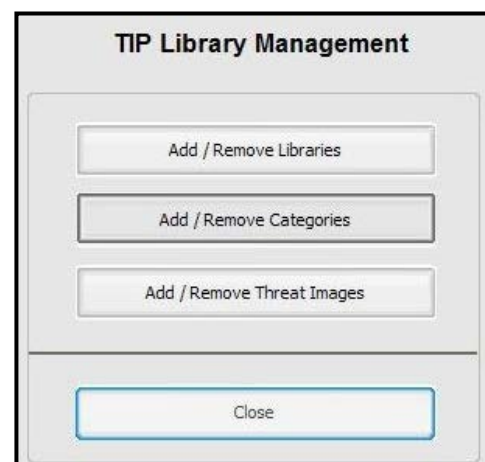
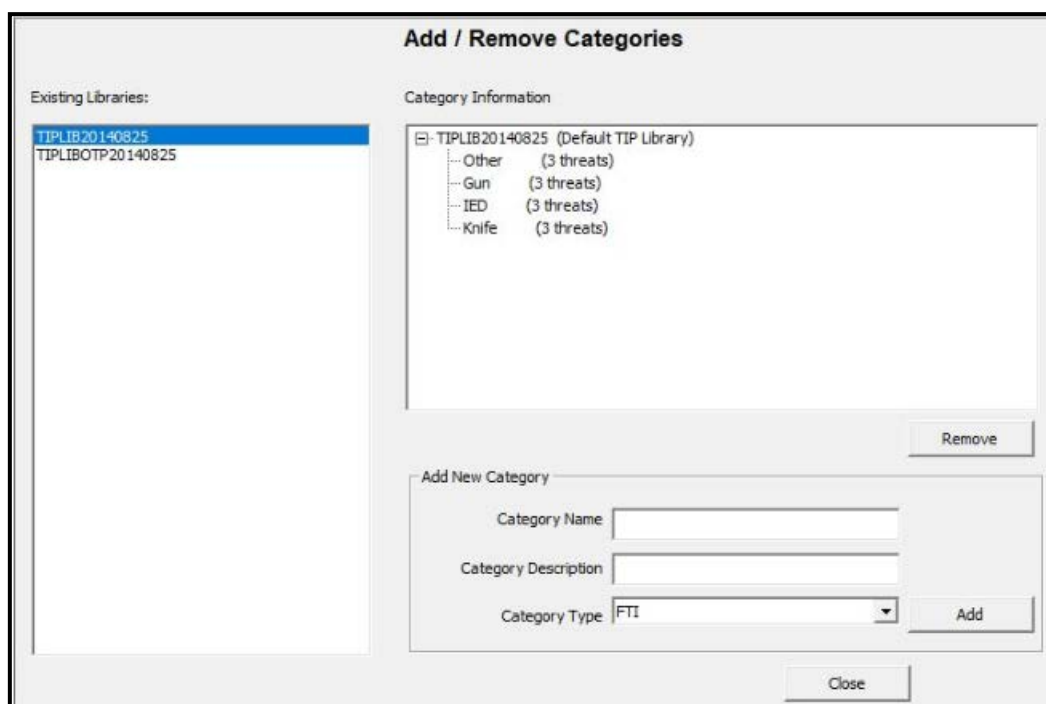

Figure 175: TIP Library Management Menu
Figure 177: Add/Remove Categories Screen
4. Selecting **Library Configurations** from the **TIP** menu displays the **TIP Library Management** menu shown in Figure 175.
1. Clicking **Add/Remove Libraries** from the **TIP Library Management** menu, (ref: Figure 175) displays the **Add/Remove TIP Libraries** screen shown in Figure 176. Click the **Close** button to exit the **Add/Remove TIP Libraries** screen.
1. Clicking **Add/Remove Categories** from the **TIP Library Management** menu, (ref: Figure 175) displays the **Add/Remove Categories** screen shown in Figure 177.
1. Clicking **Add/Remove Threat Images** from the **TIP Library Management** menu, (ref: Figure 175) displays the **Add/Remove Threat Images** screen shown in Figure 88.